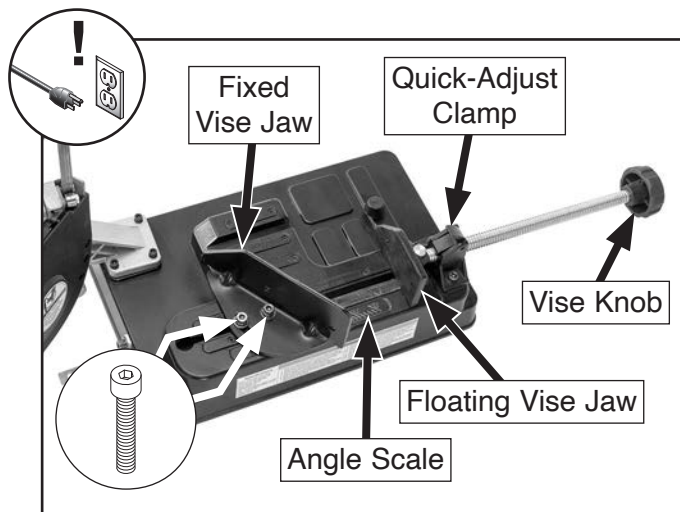

Figure 27. Vise jaw adjustment components.
3. Lift quick-adjust clamp to release leadscrew, then use vise knob to move floating vise jaw away from fixed vise jaw (see **Figure 27**).
4. Loosen (2) cap screws shown in **Figure 27**.
5. Align fixed vise jaw with desired angle on angle scale (see **Figure 27**), then tighten cap screws from **Step 4**.